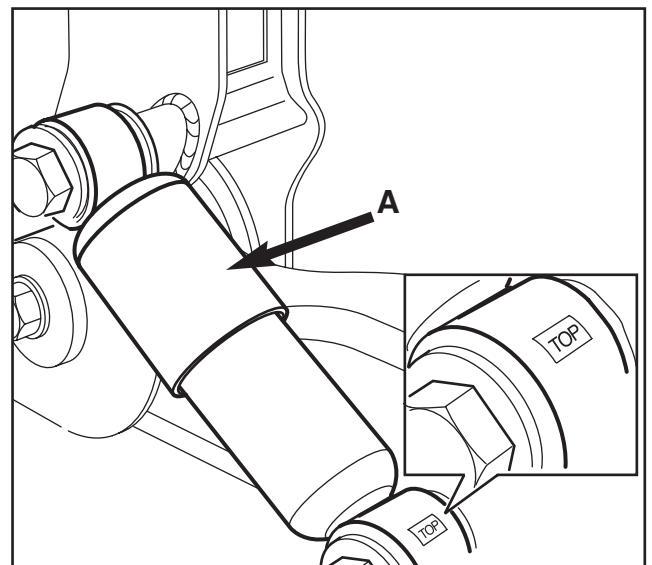

Fig 4.12
**NOTE:** The protective shroud **A** on the shock absorber must not be removed (Fig 4.12).
Shock absorbers must be fitted in the correct orientation. Current shock absorbers incorporate an adhesive label with the word "TOP" to indicate the correct orientation (Fig 4.12).